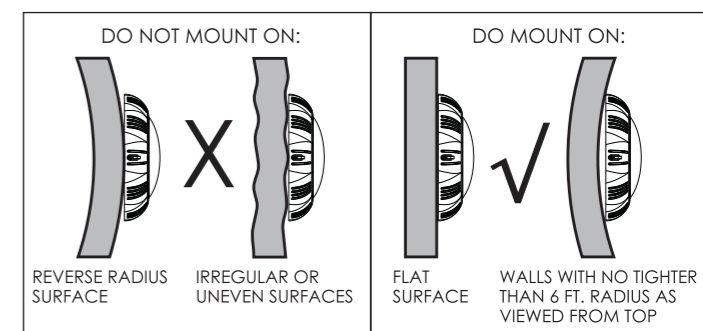

Figure 3.
- 3) If pool surface is to be plastered, you must allow proper concrete cutback for plaster thickness. Finish concrete surface must be flush with Mounting Spacer. CAUTION: Finish area surrounding Mounting Spacer MUST be flat and flush with the face of Mounting Spacer, this ensures a snug fit between light and wall, see Figure 3.